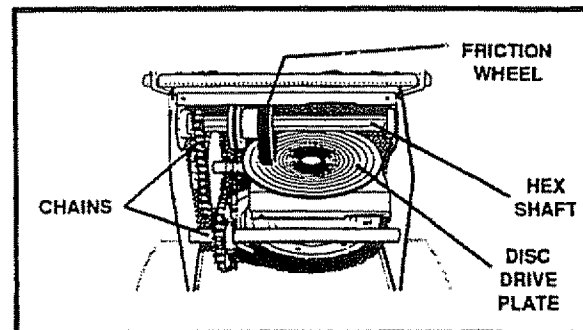

FIG. 17
- Hex Shaft and Gears - Hex shaft and gears require no lubrication. All bearings and bushings are lifetime lubricated and require no maintenance (See Fig 17).
**NOTE:** For storage, the hex shaft and gears should be wiped with 10W-30 motor oil to prevent rusting (See Fig. 17).